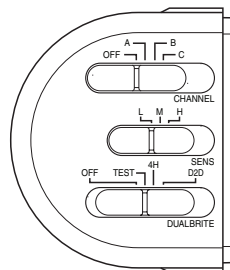

Figure 7
2. Slide the CHANNEL switch to OFF, the sensitivity (SENS) switch to the “L” position, and the DUALBRITE switch to the TEST position (see Figure 7). *Note:* The TEST mode overrides the photocell (daylight shutoff feature) and allows the light fixture to be tested day or night.